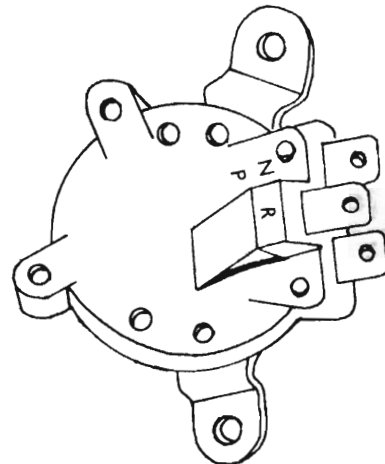

Fig. 12 - Neutral starting and reverse light switch assembly
(1) Disconnect the multi-connector from the switch. (Not shown in *Fig. 12.*)
(2) Join the "yellow" and the "white" lead "blades" together using a suitable bridge connector, to provide reverse light operation (ignition switched on).